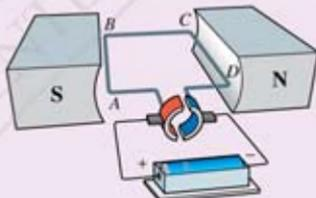

Figure 4.9
3. Download Figure 4.9 from the given website and complete the diagram by:
Worksheet (Figure 4.9)